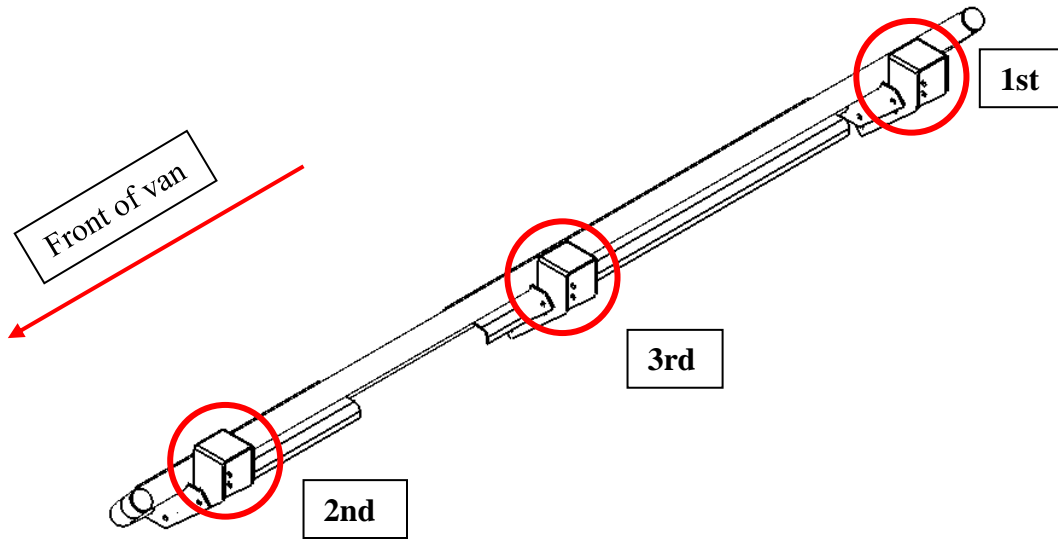

Figure 7: Passenger Side Mounting Order
- You will first drill and mount the rear bracket. See figure 7 below for reference
8. Repeat step 7 for the front bracket (2nd) then repeat again for the middle bracket (3rd) See Figure 7 for clarification.